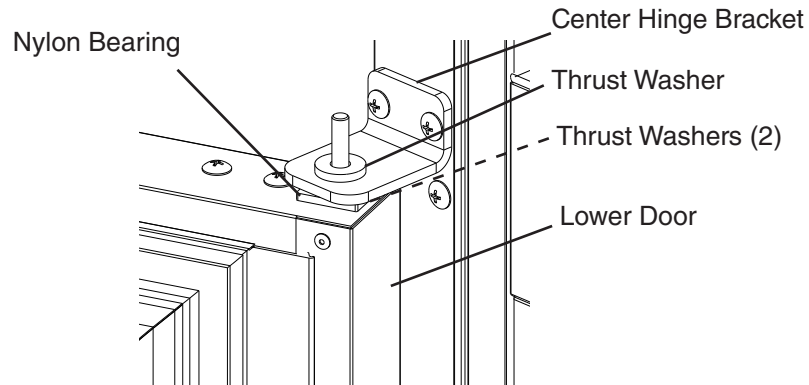

Fig. 29
- 13) Place the center hinge bracket lower pin with thrust washer into the nylon bearing on top of the door. Secure the center hinge bracket to the cabinet. See Fig. 29.